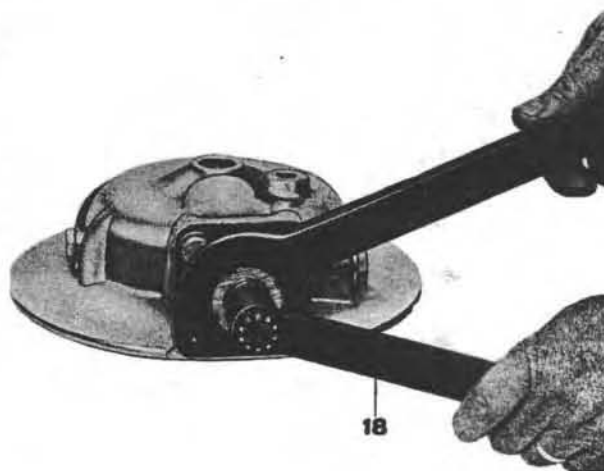

Fig. 89
- by means of tool No. 12907100 and special wrench (see 18 on Fig. 89) remove lockring
- fit shim and adjusting washers on bevel pinion and insert pinion shank into bearing housing, securing it by lockring and lockring safety washer, using tool No. 12907100 and special wrench (see 18 on Fig. 89). Lockring must be locked by washer tongue after adjustment of bevel gear set.